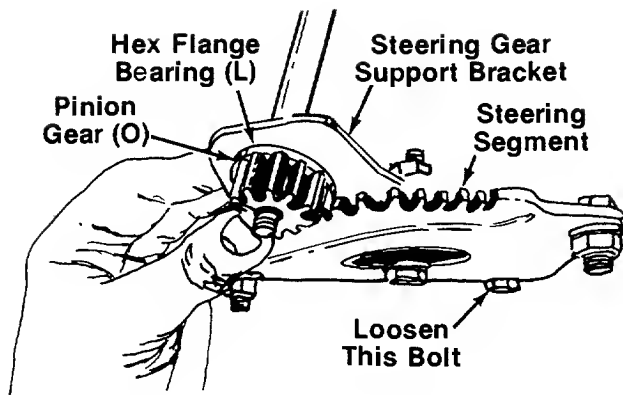
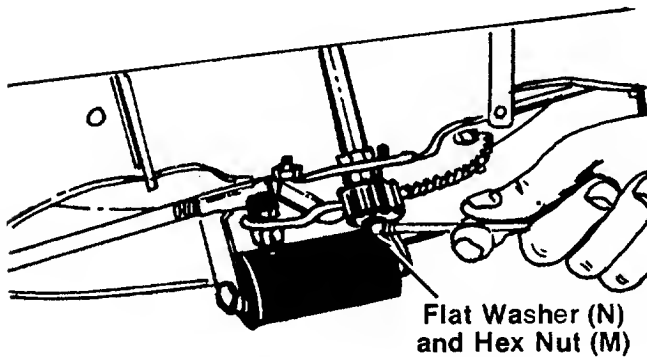

FIGURE 7.
FIGURE 8.
6. **Style A**—Insert the **steering shaft** with assembled parts through the **steering housing cover**. The lower end of the shaft should extend through the hole in the front end of the **steering gear support bracket** (Ref. No. 12 on page 30). See figure 7.
8. Place **hex flange bearing (L)**, flat side down, over the end of the **steering shaft**, and seat it into the **steering gear support bracket**. See figure 7.
9. Position **pinion gear (O)** over splined collar on **steering shaft**. Then place **flat washer (N)** ($\frac{5}{8}$ " diameter) on shaft and secure with **hex nut (M)** ($\frac{5}{16}$ " I.D.). Do not tighten at this time.
11. Now tighten the **hex nut (M)** which secures the **pinion gear**. See figure 8.